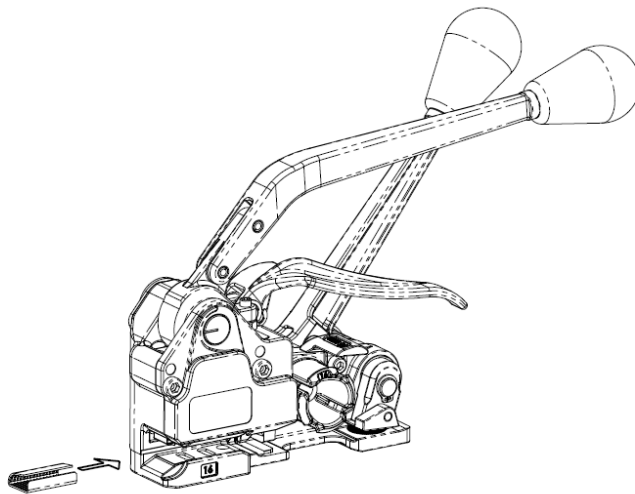

Fig. 2
1. Load a seal as shown on Fig. 2. For MUL-350 use open serrated seals for 5/8" (16mm) strap and for MUL-351 use open serrated seals for 1/2" (12mm) strap.